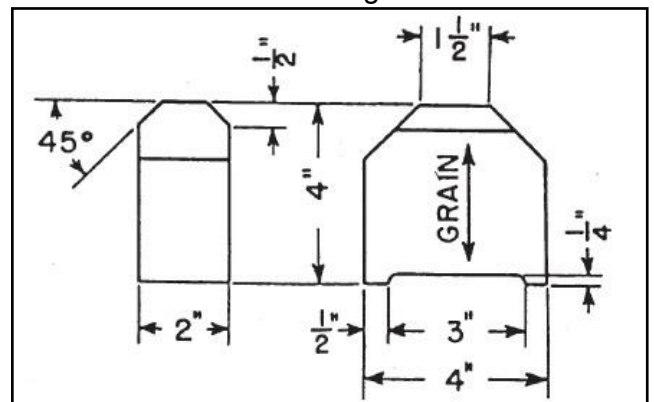

Fig. 9
- Home made gauge block of hard wood, with the dimensions as shown in Fig. 9